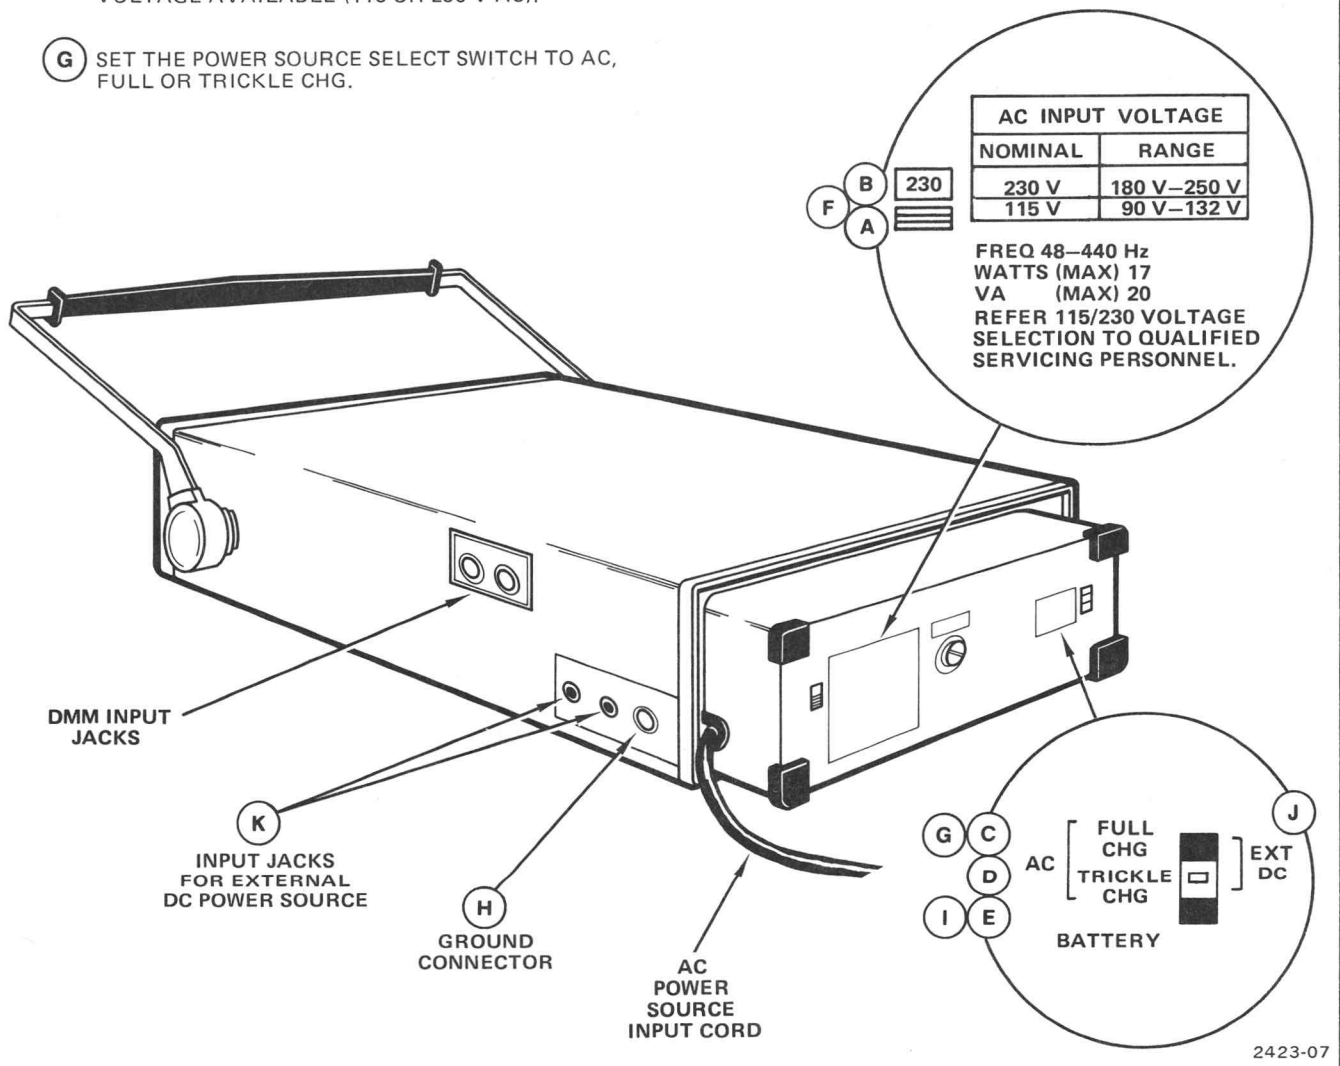
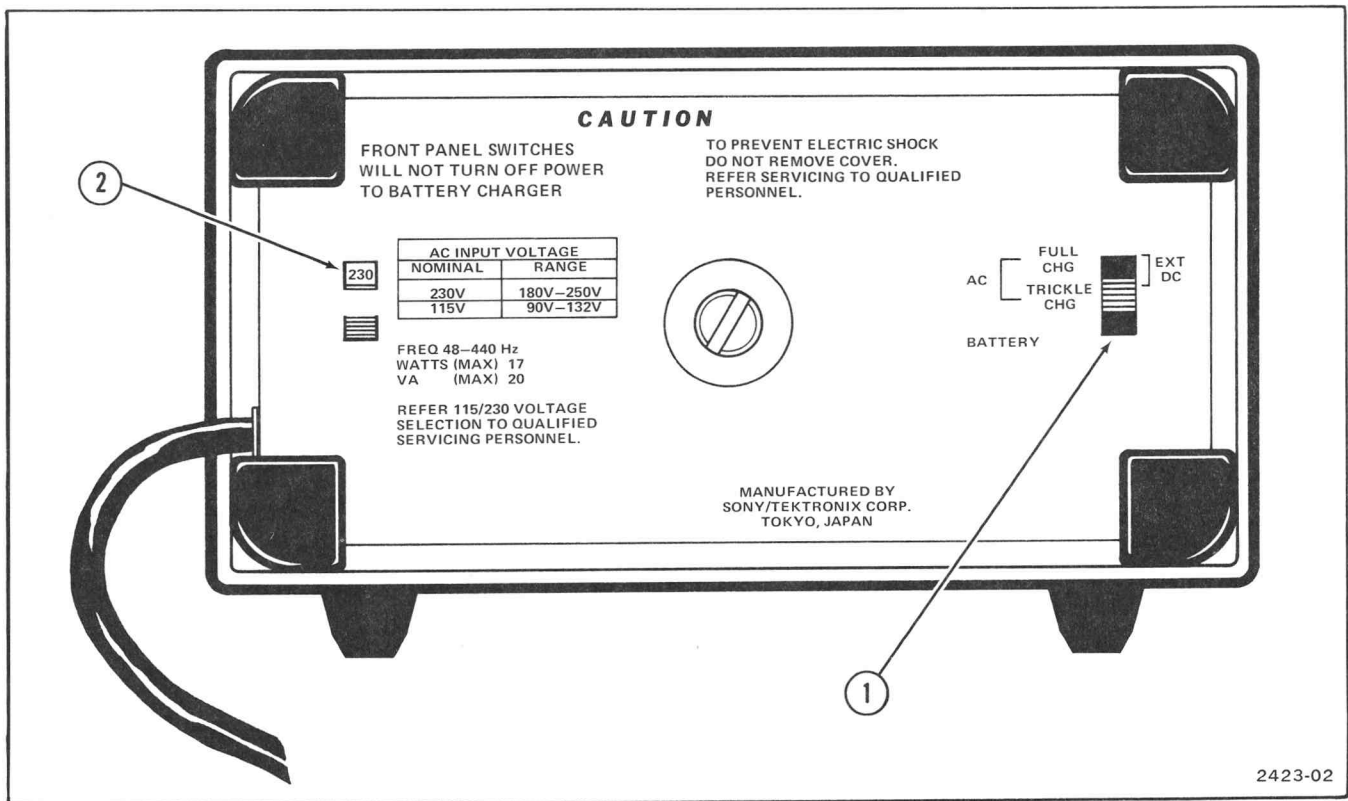

Fig. 2-1. Description of power source operation.
Fig. 2-2. View of rear cover.
The 305 can operate from an external dc power source of +9 to +32 Vdc. Set the Power Source Selector switch to the EXT DC position (Fig. 2-1). Apply external dc voltage to the two banana jack inputs using the cable assembly supplied with the instrument (Fig. 2-2).
To operate the instrument from the internal battery source, set the Power Source Selector switch to the BATTERY position (Fig. 2-1). Battery voltage is indicated on the DMM digital readout when all DMM FUNCTION push buttons are in the out position.
The 305 can be operated from a 115 or 230 Vac nominal line voltage source with a power line frequency of 48 to 440 Hz (see Fig. 2-1). The AC Input Voltage Selector switch must be set to the range that matches the local ac supply voltage.
The major controls and connectors necessary for proper operation of the instrument are located on the front, side, and rear cabinet panels. Some auxiliary adjustments are accessible through the bottom of the cabinet. Figures 2-2 through 2-9 show views of the instrument with the controls and connectors called out. The circled numbers correspond to the discussion about each control and connector. Figure 2-11 shows the location of the auxiliary adjustments and the purpose of the controls. The auxiliary adjustments are made only
- 1 **Power Source Selector switch.** Three-position switch provides operation selection of ac-source voltage, external dc voltage, or internal battery operation. The AC position, in conjunction with the AC INPUT VOLTAGE Selector switch, allows the 305 to be operated over two ranges of ac-source voltage. The Power Source Selector switch also provides for operator selection of either full-charge rate or trickle-charge rate to the internal battery of the instrument (Fig. 2-2).